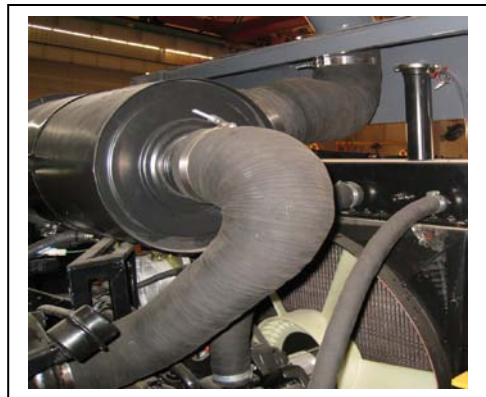

Figure 3-19
3.4.3.6 Verify the intake manifold (figure 3-19)